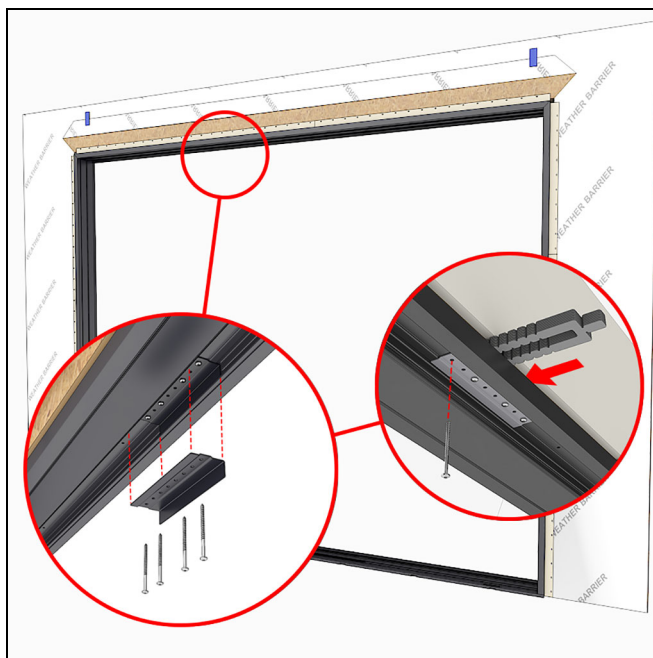

Figure 94
3. Fasten through the bracket into the head jamb framing with #10 x 3" installation screws at each pre-drilled location. Shim above the bracket as needed. See Figure 94.